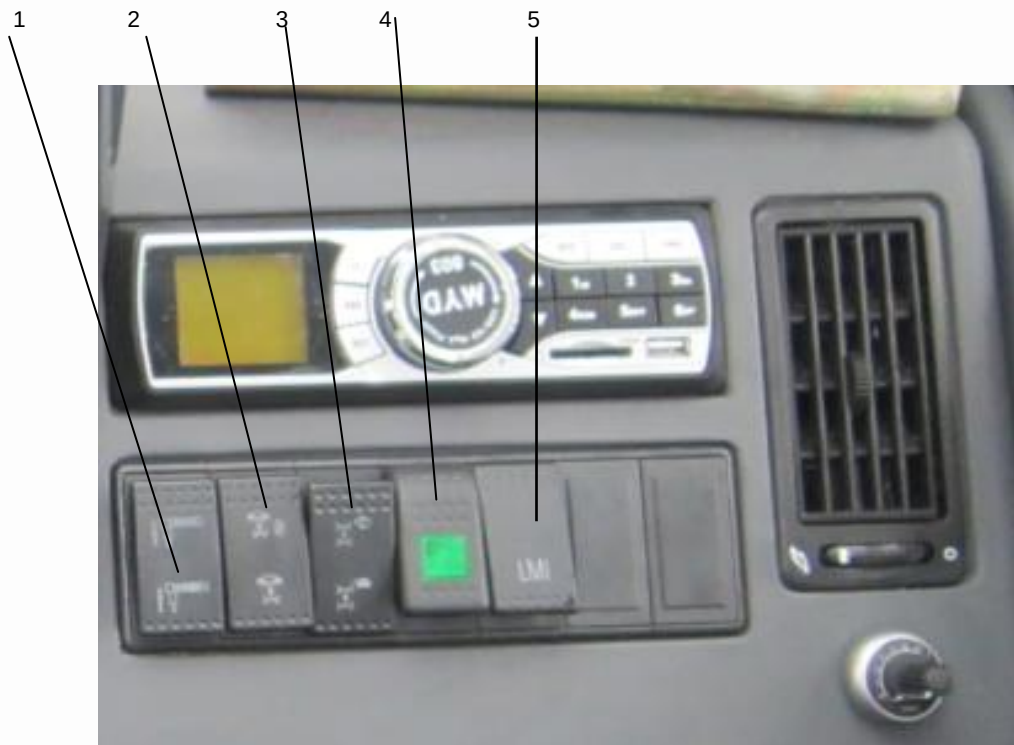

Figure 06 – 3 Right dash
11. **CAB HEATER POWER SWITCH** – Used to turn on the cab heater. The controls to adjust heat are on the **AIR CONDITIONER CONTROL PANEL (5)** (See Figure 06 – 1).
1. **OUTRIGGER EXTEND / RETRACT MASTER SWITCH** – Used with switches (12, 13, 15, 16 in Figure 06 – 1) to extend and retract the outrigger beams and jacks. Push down to retract, up to extend.